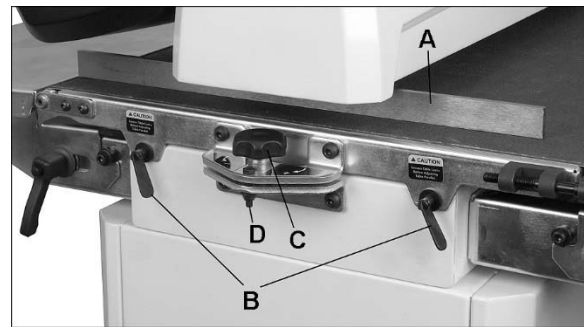

Figure 8-4: drum alignment
3. Insert gauge (A, Figure 8-4) between drum and conveyor table at outboard side.
7. Loosen both table locks (B, Figure 8-4)
8. Turn knob (C) to raise or lower outboard end of table. Follow directional marks on label: (+) to raise, (-) to lower.
9. Tighten table locks (B).
3. If a ridge is visible where the drum overlaps, **loosen both table locks** (B, Figure 8-4) and lower table at outboard end by slightly turning knob (C) counterclockwise.
5. Tighten table locks (B).
**Note:** When sanding narrow stock (22" or less), return conveyor table to parallel position. Turn knob opposite direction until lock nut (D, Figure 8-4) is contacted. The lock nut provides a positive stop for table parallelism.